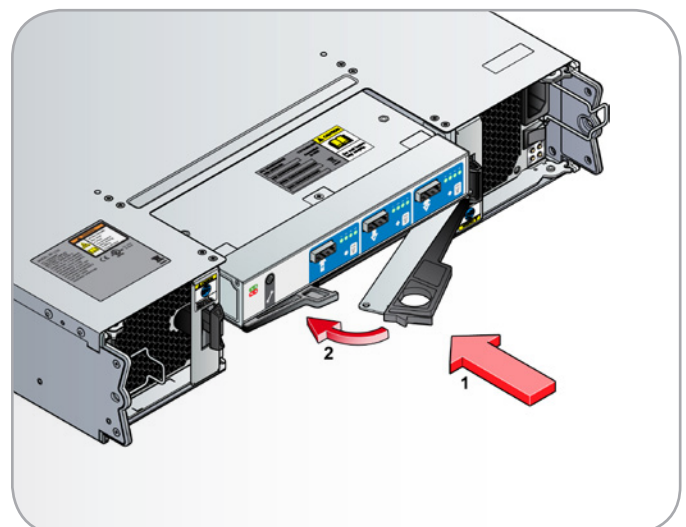

Fig. 79 - Inserting the Disk I/O Module
2. With the latch in the open position (*Fig. 79*), slide the Disk I/O Module into the enclosure until the latch engages.